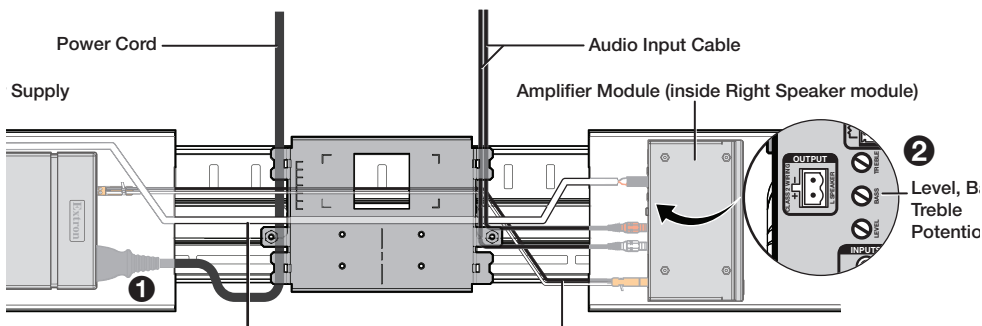

Figure 21. Connecting Power to the Power Supply
4. Connect the power cord to the power supply in the left speaker assembly (figure 21, ❶), as shown below.